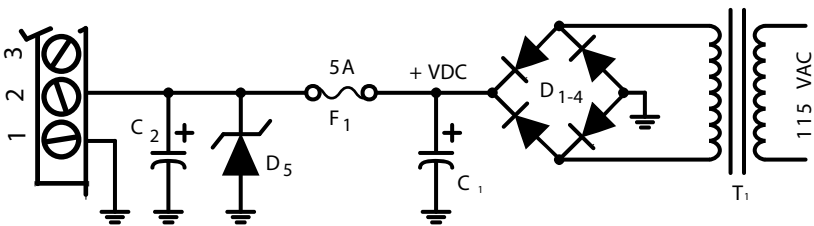

Figure 3: Power Supply
**The power supply terminals should have a capacitor of at least 470  $\mu\text{f}$  connected across them. This is particularly important for regulated power supplies since they usually have little output capacitance. This capacitor should be located as close to Terminals 1 & 2 as possible (see Figure 3,  $C_2$ ).**
For those users that wish to build their own power supply, Figure 3 shows a suggested circuit. Because of the electrical noise generated by these drives, it is not recommended that the supply be shared with low level logic circuitry.
To prevent this problem a zener diode should be connected from Terminal 2 to ground (Figure 3, D5). This diode protects the drive from any over-voltage condition. Recommended diodes are 1N4762 (1 watt) or 1N5375 (5 watt). Note the 5 AMP fuse (F1) placed in series with Terminal 2 and the power supply. Be sure this fuse is located between the power supply and the zener diode. In the event of an over-voltage condition the zener diode and fuse may be destroyed, but the CN0162 and power supply will be protected from damage.
If the motor is wired for high performance (parallel) the current required from the supply will not exceed 2 / 3 of the motor's rated per phase current. Low performance (series) operation requires a maximum of 1 / 3 the motor's rated current. Use the manufacturer's phase current rating of the motor in conjunction with the motor wiring option to estimate the size of power supply required. As an example, a 6 wire motor rated at 4 amps per phase is used with the power supply circuit (in Figure 3) and the motor is in the full winding (series) configuration. To calculate the current required from the power supply:
In this example, assume a transformer with a 25 volt RMS secondary will be used. After rectification this will produce a 37 VDC power supply voltage. To calculate the size of the filter capacitor (Figure 3,  $C_1$ ) use the following equation:
$C_2$  (in Figure 3) is the 470  $\mu F$  capacitor that should be located close to the CN0162 power supply terminals.  $C_1$  may be made smaller by that amount if desired. Both capacitors must have a voltage rating safely in excess of the power supply voltage; 50 VDC being a good choice for this example.